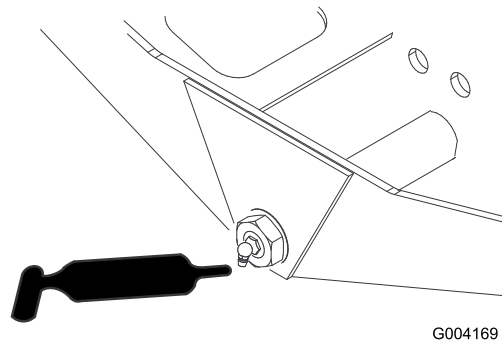

Figure 49
- Axle-steering pivot (1) (Figure 49)